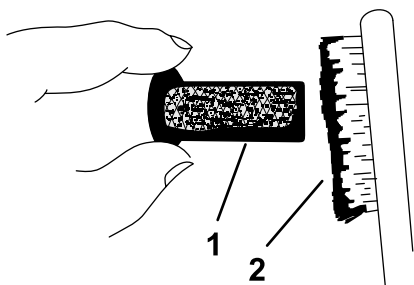

Figure 48
9. Use a brush to carefully remove carbon deposits from the spark-arrester screen (Figure 48).